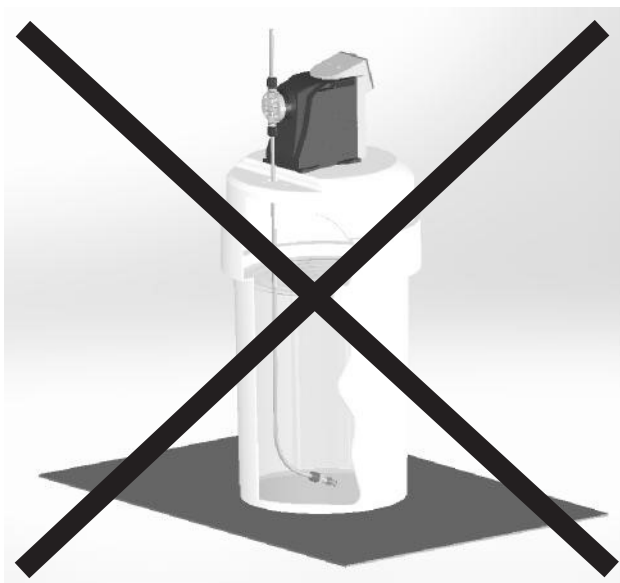

FIGURE 3 - Incorrect Foot Valve Installation
1. The foot valve acts as a check valve to keep the pump primed in suction lift applications. Cut suction tubing to a length so that the foot valve hangs approximately 2 in (50 mm) above the bottom of the solution container. Please refer to Figures 3 and 4 for proper foot valve positioning. Maximum recommended vertical suction lift is 13.1 ft (4 m) for Output Codes 2 & 3 and 6.5 ft (2 m).